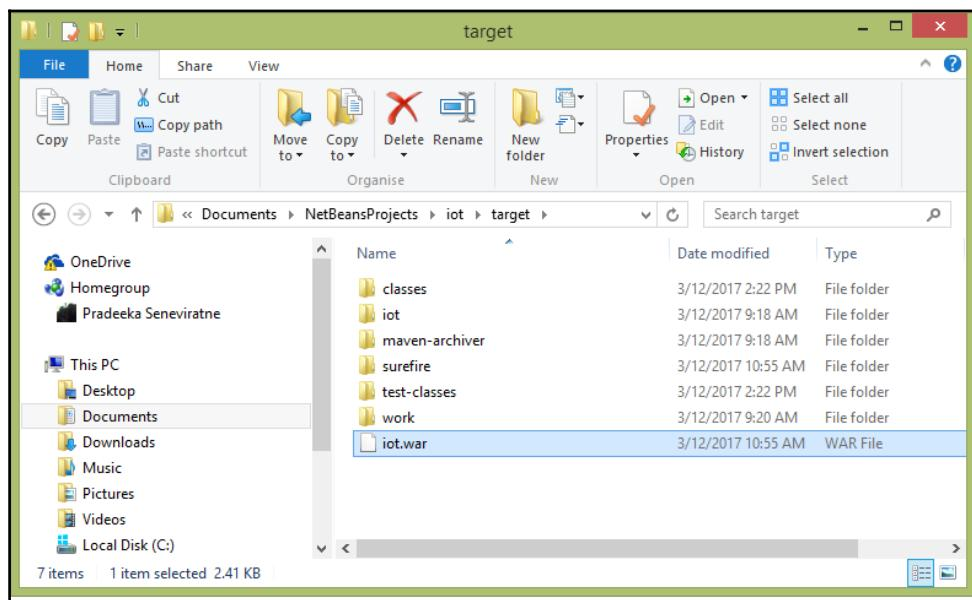

Figure 6-16: iot.war file in target folder
11. The deployment of the application from a Windows computer to the Raspberry Pi is quite easy with FileZilla. Every Java-based web project generates a **Web application ARchive (WAR)** file, with an extension of .war. This is the distributed collection of Java server pages, Java servlets, Java classes, XML files, tag libraries, static web pages, and other resources that together constitute a web application. The iot.war file for this project can be found in the target directory of the iot project, as shown in Figure 6-16: